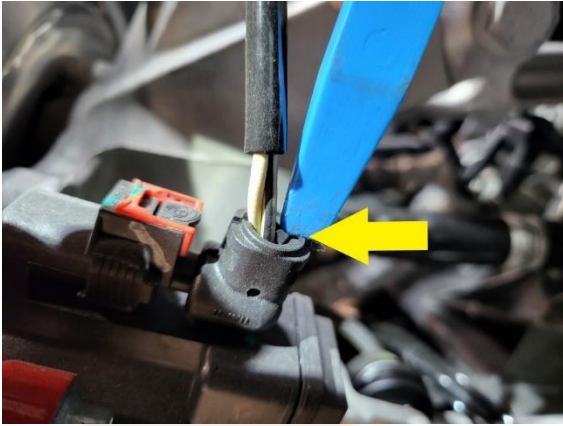
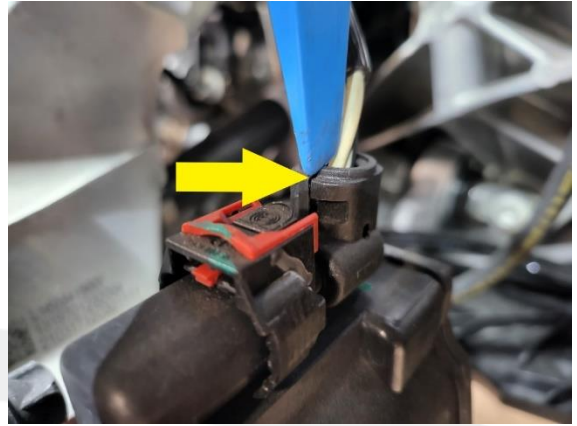

Figure 5
Figure 6
- a. Insert a plastic trim tool into the slot (Figure 5), and then pry open the backshell as shown (Figure 6).